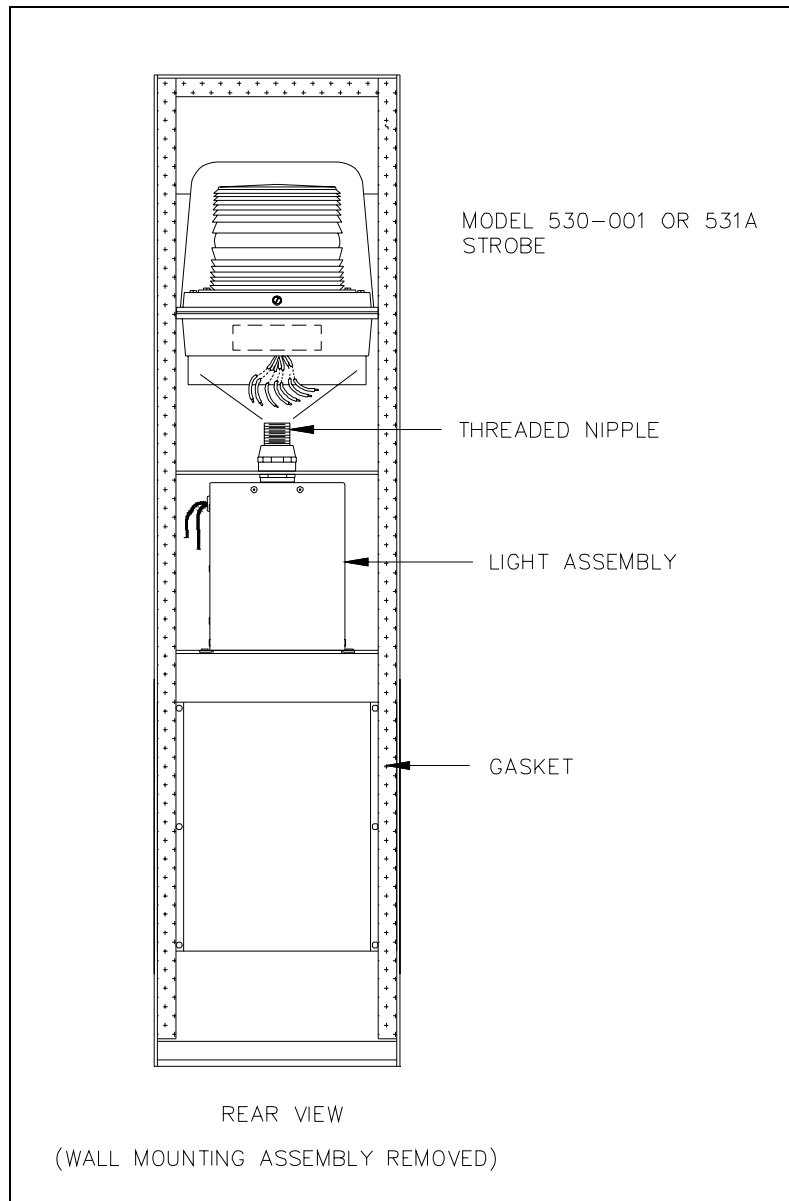

Figure 6. Strobe Assembly
1. Insert the strobe's seven 15-foot wires through the stanchion's threaded nipple, and allow the wires to extend to the bottom of the stanchion. See Figure 6.